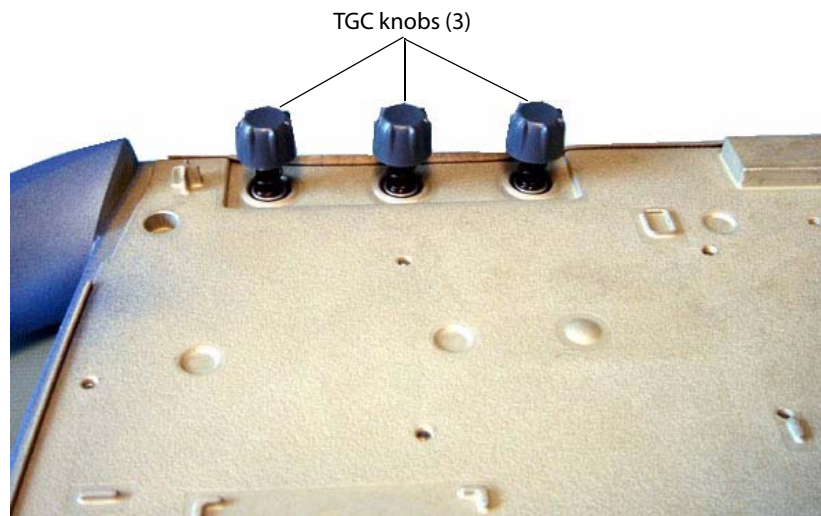

Figure 7.11 TGC Knobs
- TGC PCBA** 1 Remove the TGC knobs identified in Figure 7.11.